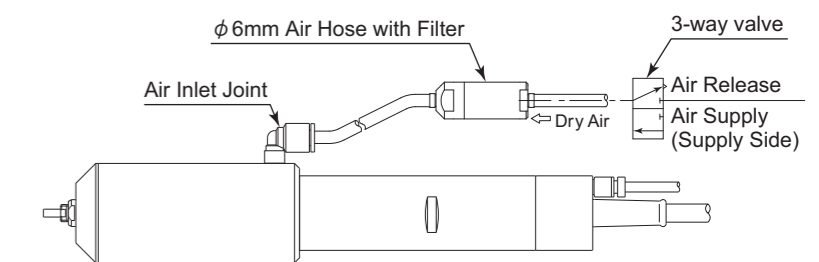

Fig. 3
- ① Connect the provided  $\phi$ 6mm Air Hose with Filter and 3-way valve to Air Inlet Joint shown in Fig. 3.
- ② Supply clean air from air compressor through air filter or air dryer to the 3-way valve at the set air pressure : from 0.55 - 0.6MPa (79.8 - 87psi).